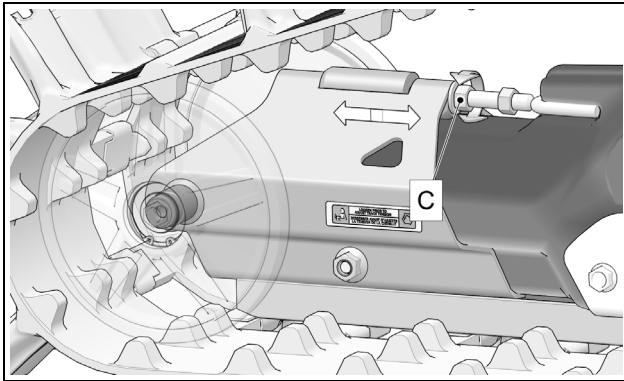

Figure 24
To adjust track tension, turn tension adjustment nut (C) clockwise or counterclockwise to obtain the recommended track tension. See Figure 24.